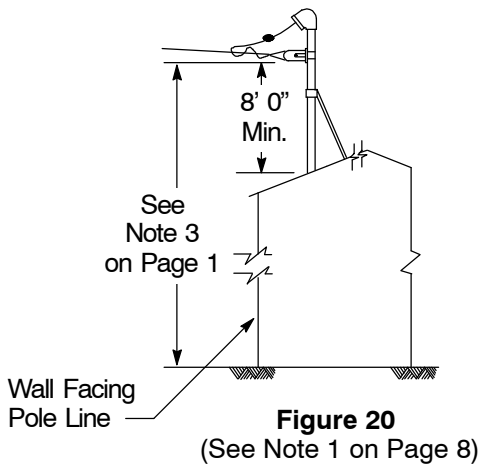
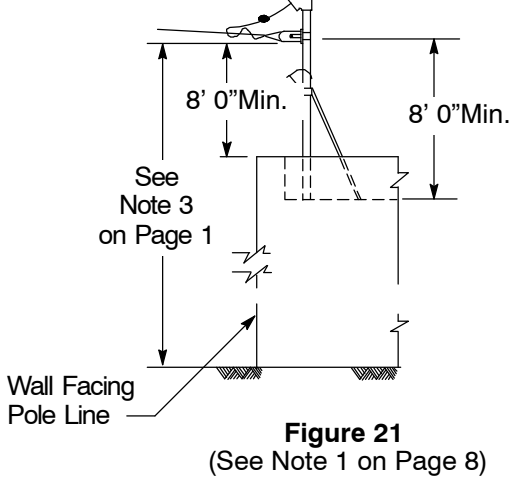

Figure 20
Figure 21
2. 1-1/4" minimum galvanized rigid conduit or IMC, or 2" minimum rigid aluminum conduit (IPS dimensions) is required for all periscope attachment structures (Figure 20 and Figure 21 on Page 9). PG&E will not attach services to service entrance conduit of plastic material. Periscope (mast) height without bracing shall be limited to 30" above the roof in locations where the service drop must be installed through trees, or where trees or tree branches may strike or cause unplanned loading on the service drop.